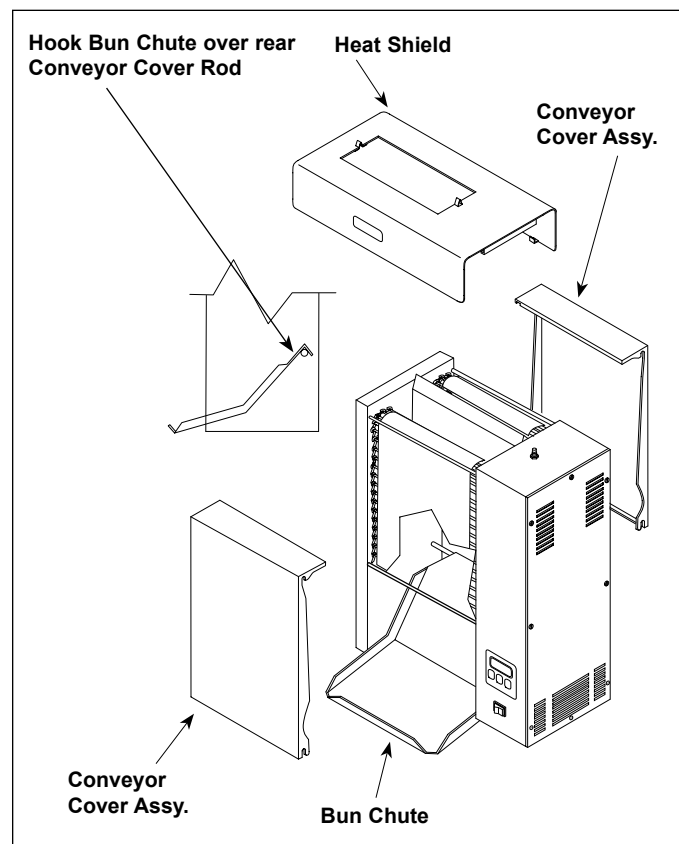

Figure 2. Installing Bun Chute
- bun chute (Figure 2)
3. Install the bun chute (Figure 2).